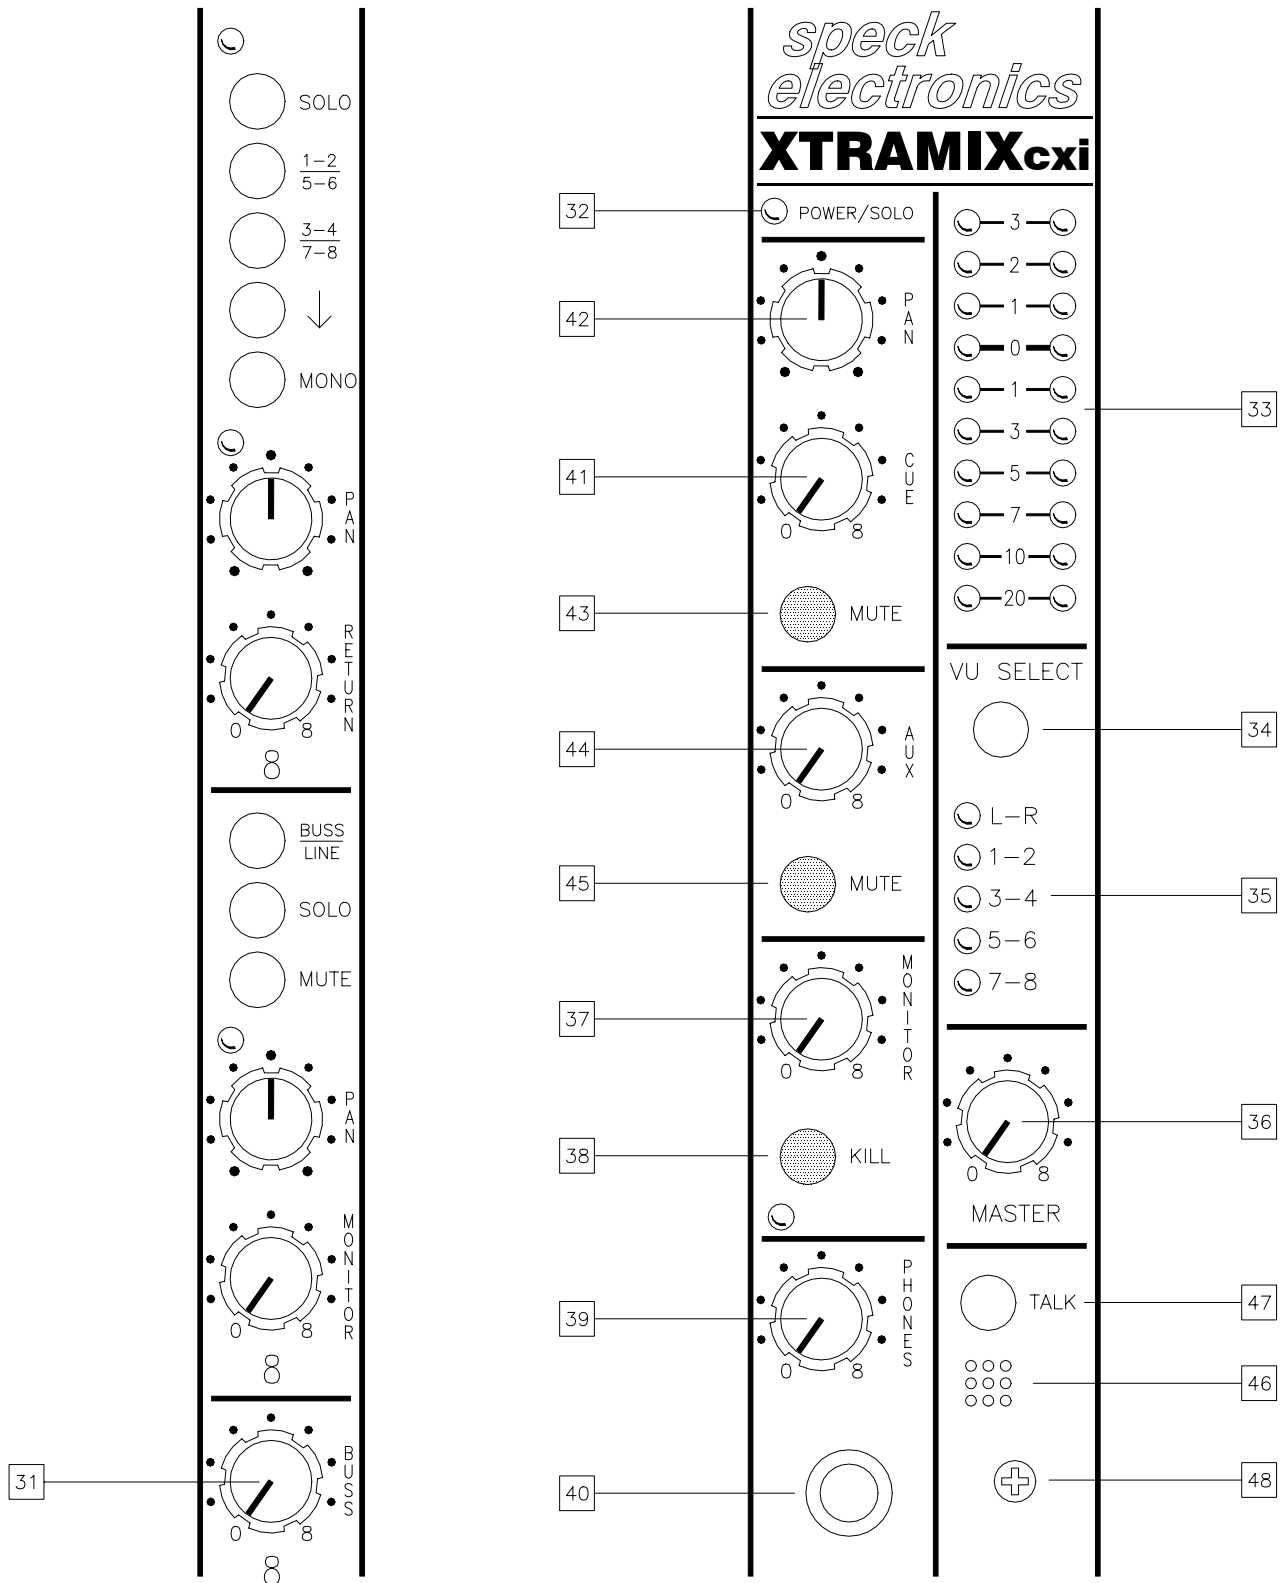

Figure 5. Master Section
Refer to Figure 5 for location of items 31 thru 48.